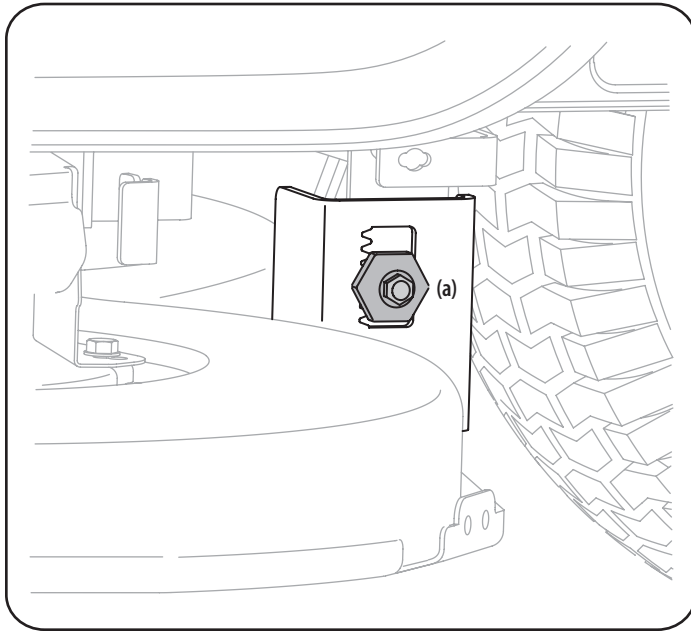

Figure 24
- Loosen, but do NOT remove, the hex cap screw (a) on the left deck hanger bracket. See Figure 24.